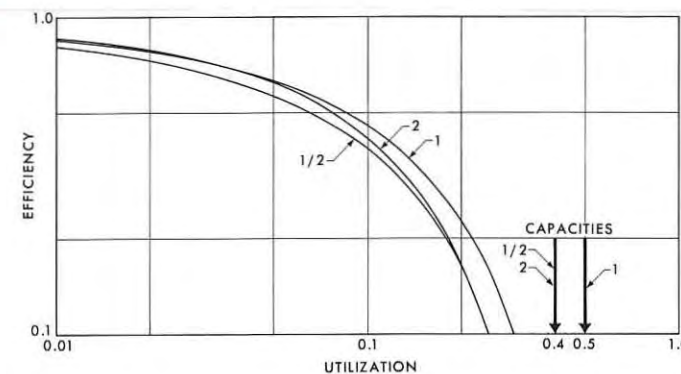

FIGURE 6: Efficiency versus utilization for screens of height/width ratio 2, 1, $1/2$ with lower edge at eye level.
Figure 6 shows the variation of display efficiency with utilization for screens of different height/width ratios and with the lower edge at eye level. The efficiency decreases
A few examples will illustrate how the concept of efficiency can be applied to the design of optimum displays. As the first example, we consider a screen of height/width ratio 2 with the lower edge at eye level, and display an array of 400×200 symbols each requiring a visual angle of $\delta = 0.1$ degree in each dimension. The utilization of this display is $N\delta^2 = 0.24$ ster, which amounts to 60 percent of capacity. For this utilization, Figure 6 shows a display efficiency η of 10 percent. According to the efficiency definition (10), this means that the screen must be 3.05 times larger than the audience. Thus, to serve a $20m^2$ audience, we need a $61m^2$ screen.